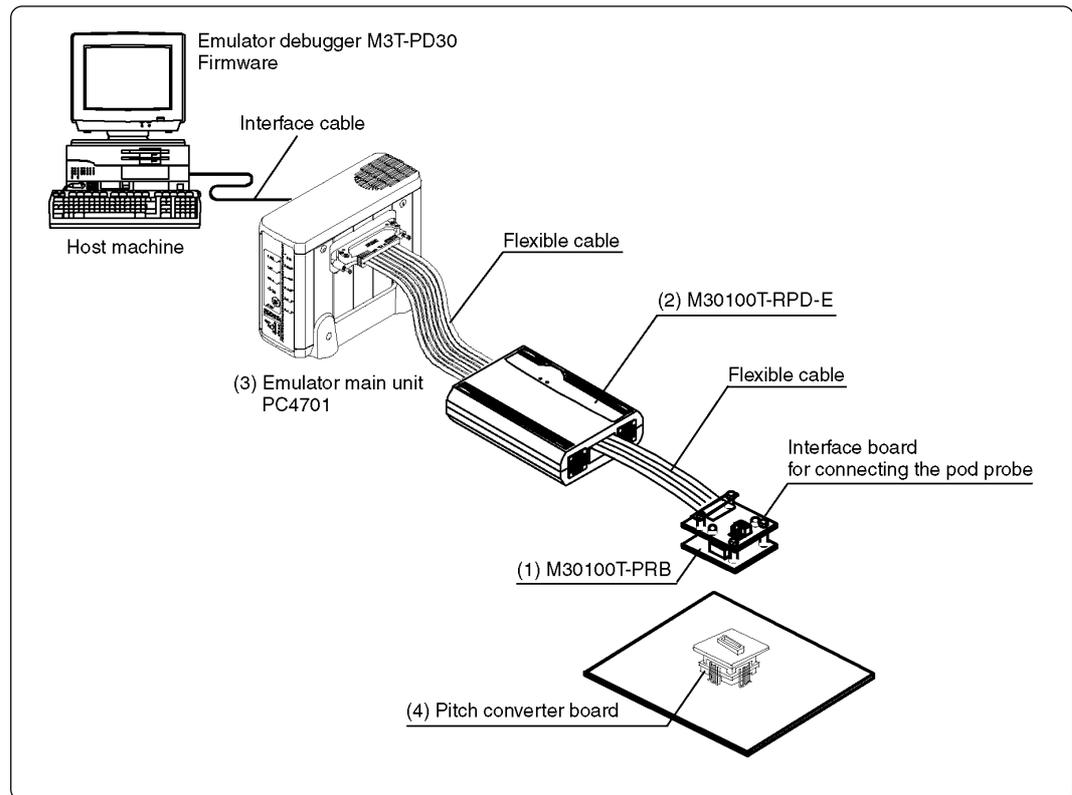

Figure 2.1 System configuration
Product (1) shown in Figure 2.1 is this product. Get (2) to (4) separately.
(1) Pod probe M30100T-PRB